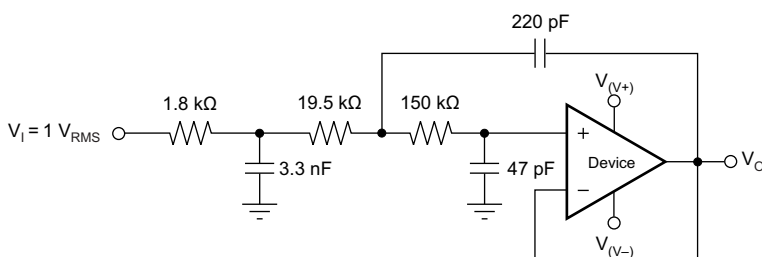

Figure 47. OPA357 Configured as a Three-Pole, 20-kHz, Sallen-Key Filter
3. Using a noninverting filter topology, such as the Sallen-Key (see Figure 47).